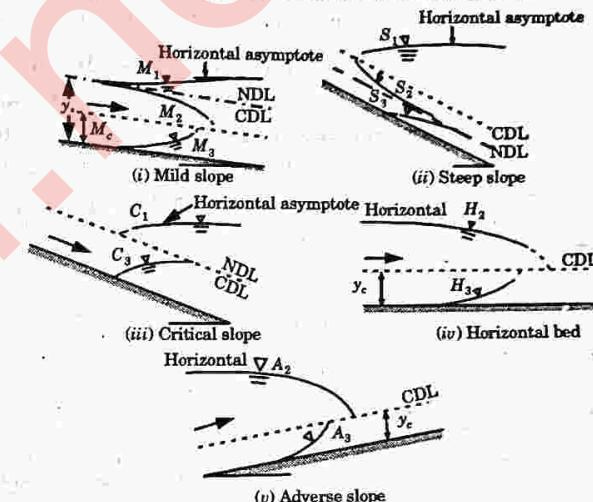

Fig. 2.14.1. Various GVF profiles
7. The characteristic shapes and end conditions of all these profiles are shown in Fig. 2.14.1.